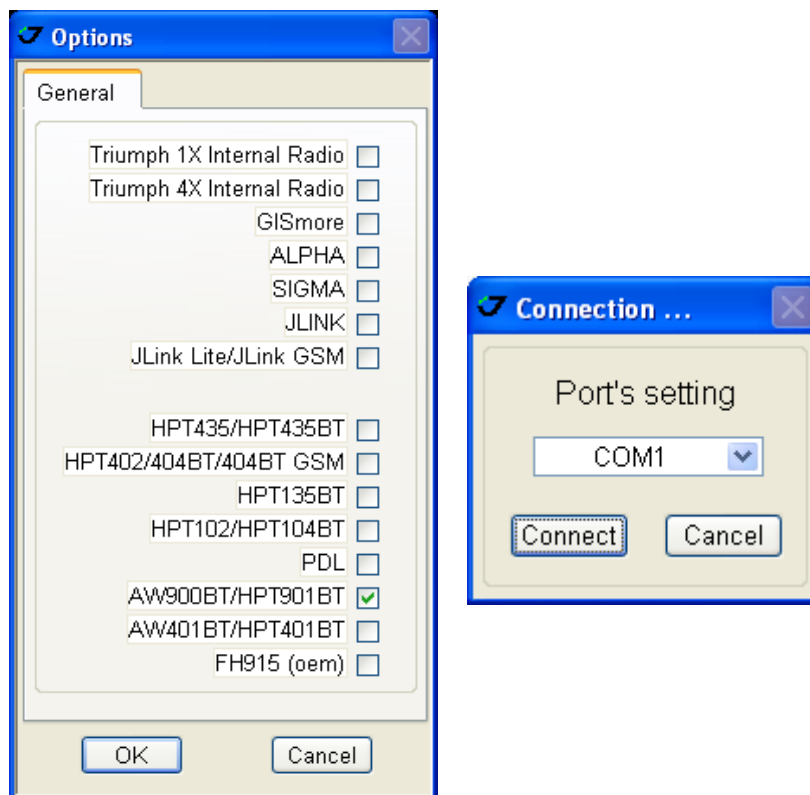

Figure 4. Main window
3. Start ModemVU. *Main* window appears (Figure 4). Choose *HPT901BT* modem and click *OK*. Then select the COM port the modem is connected to, and click *Connect*: